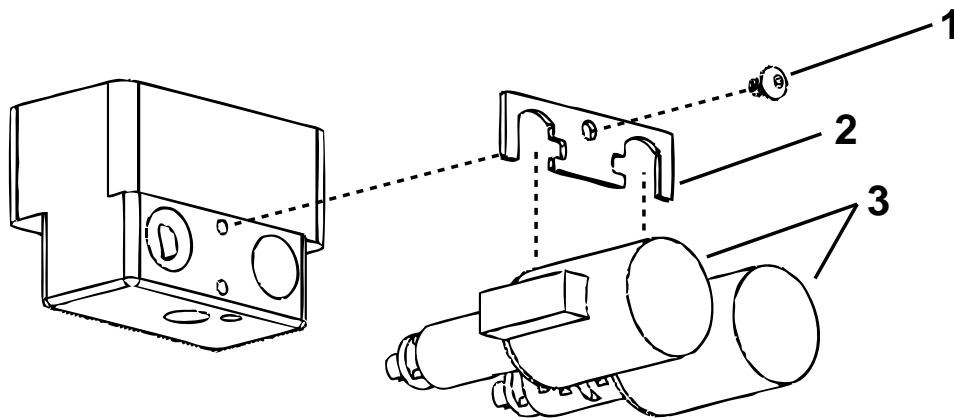

Figure 10
1. Insert the solenoid clamp (#1) around both solenoids (#3). **Reference Figure 10.**
2. Install both solenoids into the block simultaneously using M4x0.7x6mm BHCS (#1). **Reference Figure 10.**